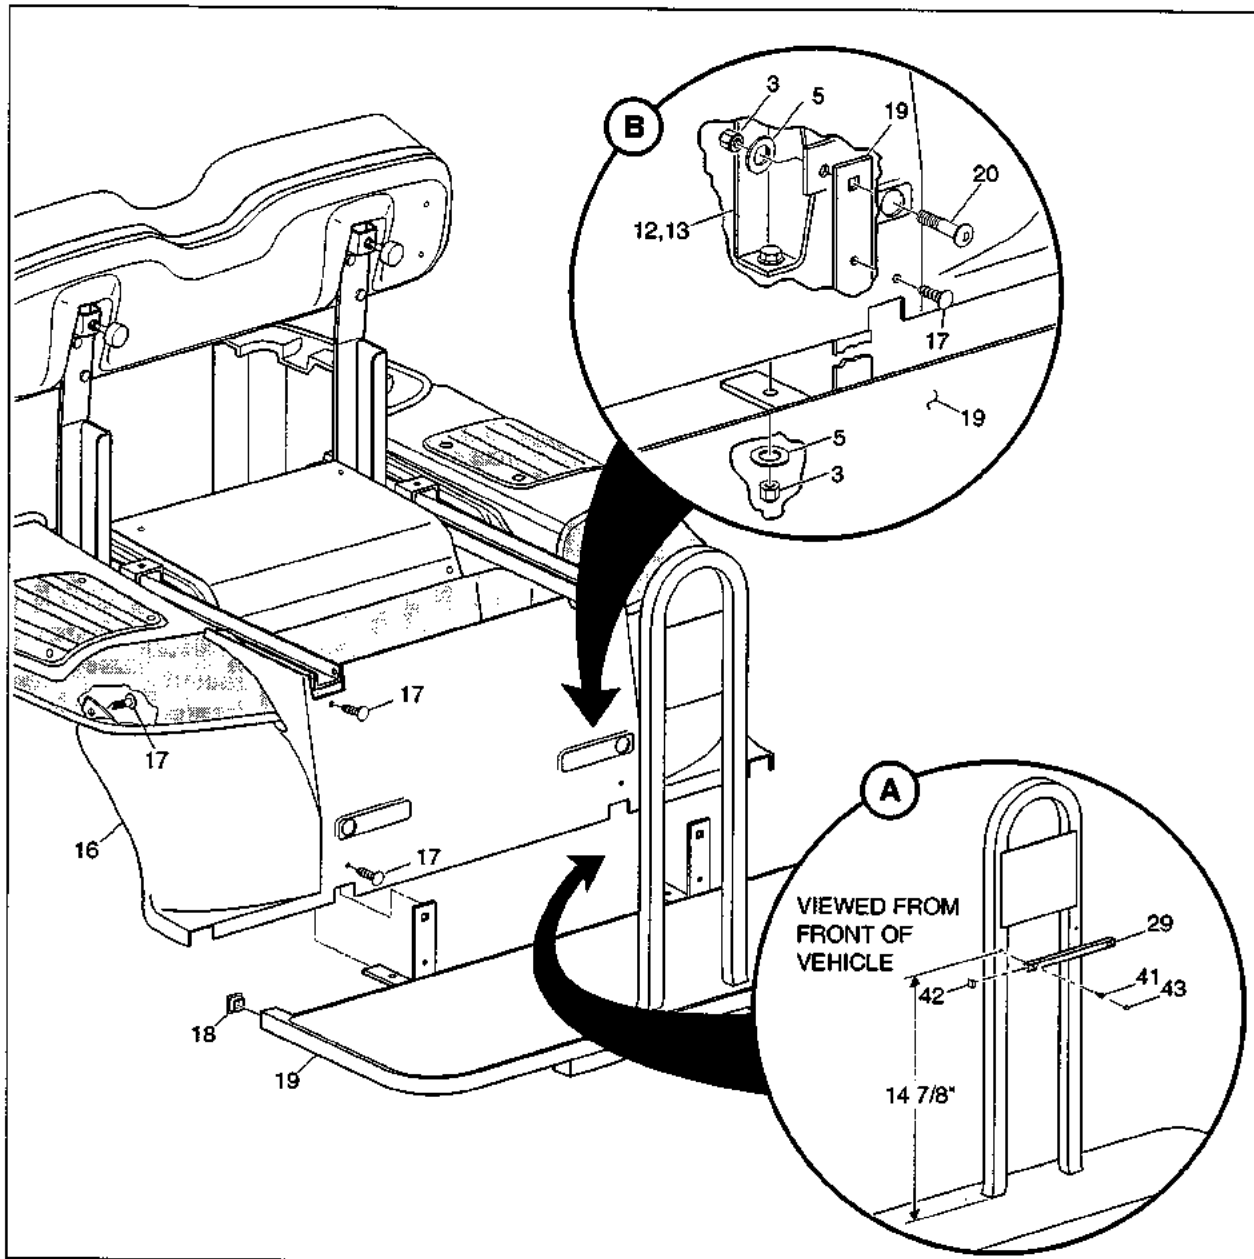

Fig. 5
1. Place the valance panel (item 16) as shown in Fig. 5 with the side flaps under the fender end caps.
2. Secure the side flaps to the fender end caps using two plastic rivets (item 17) as shown.
3. Before attaching foot rest (item 19), mark hole centers as dimensioned and attach support tube (item 29) to foot rest assembly with self drilling and tapping screws (item 41). Insert hole plugs (item 43) and end plugs (item 42) in support tube. (See Fig. 5 - Detail A)
4. Install the end plugs (item 18) into the tubing ends of the foot rest (item 19).
5. Remove the nut (item 3) and washer (item 5) (previously installed) from the underside of the frame. (See Fig. 5 - Detail B)
6. Place the foot rest assembly (item 19) up against the bottom of the valance panel aligning the bolts that were previously installed in the bagwell with the holes in the horizontal part of the welded bracket. Be sure the vertical part of the welded bracket is inserted between the valance panel and the vertical frame supports. See Detail in Fig. 5
9. Place carriage bolt (item 20) through the large holes in valance panel and secure with washer (item 5) and nut (item 3). (See Fig. 5 - Detail B)
10. Finish securing the valance panel to the vehicle using two rivets (item 17) at each side.
11. Firmly tighten the nut (item 3) on the underside of the frame. (See Fig. 5 - Detail B)